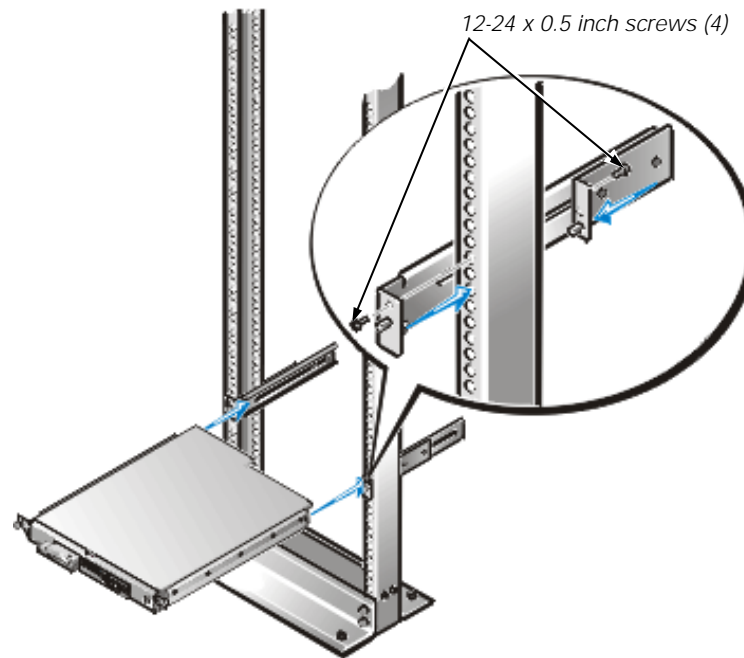

Figure 6. Installing the Bracket in the Rack
1. Slide the back portion of the bracket to its widest opening and place the mounting bracket into the rack, with the bottom of the bracket at the marks you made earlier (see Figure 6).